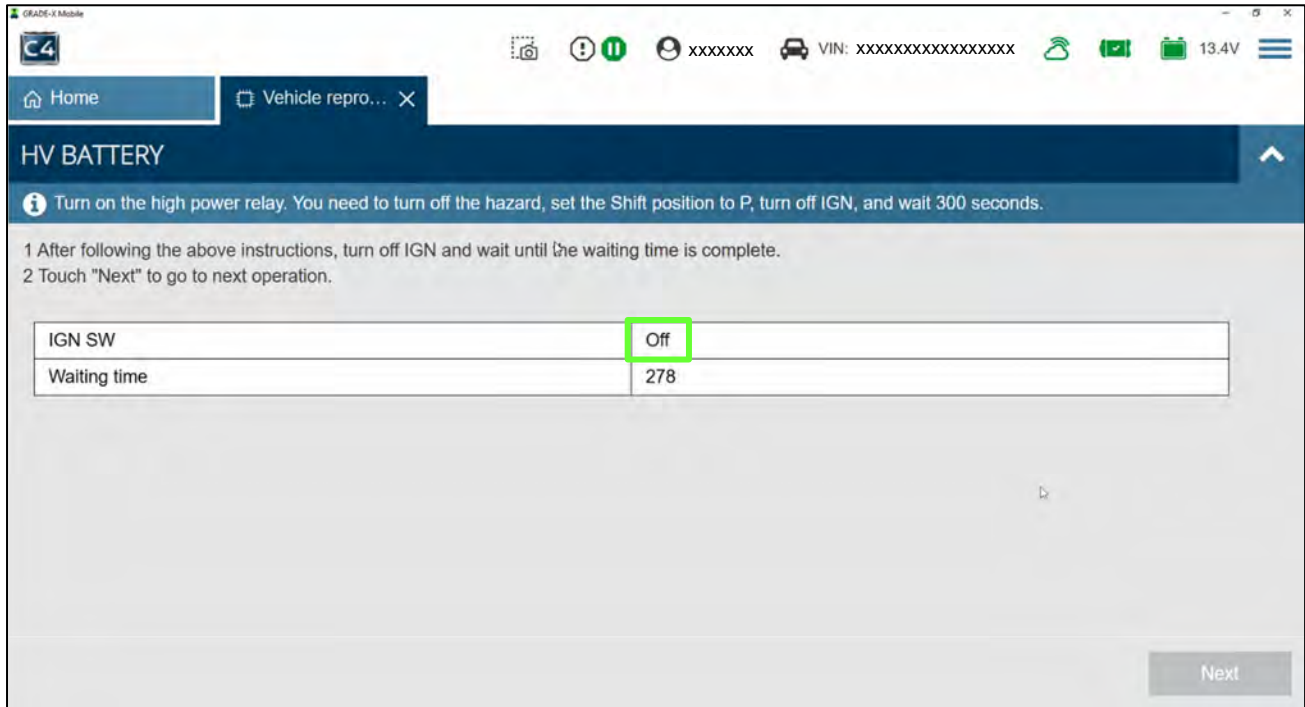

Figure 28
49. Confirm that the vehicle is in Park (P), and then turn the vehicle IGN to OFF.
50. Verify the **IGN SW** status is now “Off” (Figure 28).